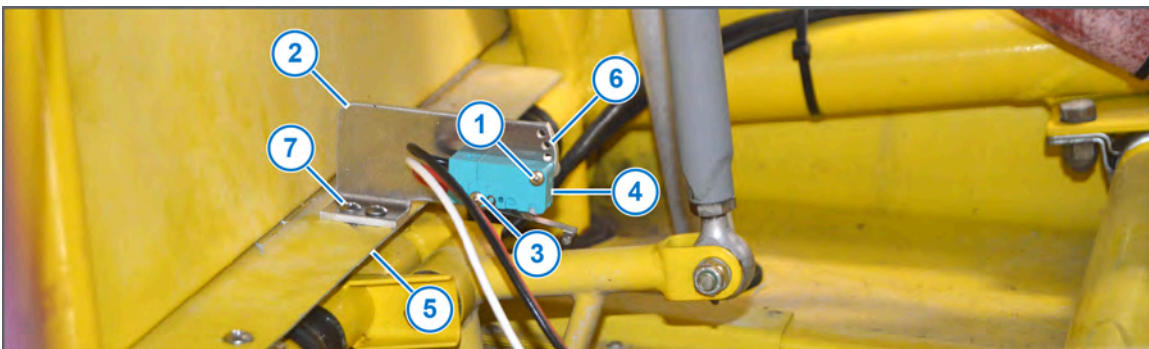

Figure 37: Microswitch Installation
4. Install the microswitch (Figure 37, Item 1) to the bracket (Figure 37, Item 2):
- a) Install one screw (Figure 37, Item 3) with the associated hardware through the microswitch into the slotted hole of the bracket.
- b) Install another screw (Figure 37, Item 4) with associated hardware through the microswitch into the third hole from the bottom on the bracket.
- c) Place the bracket/switch on the flat piece of metal (Figure 37, Item 5) located behind the spray handle in the fuselage.
- ii. Move to the desired hole (Figure 37, Item 6).
- g) Install two Cherrymax rivets (Figure 37, Item 7) per AC 43.13-1B, Chapter 4, Section 4, to attach the bracket to the aircraft.
See Figure 37